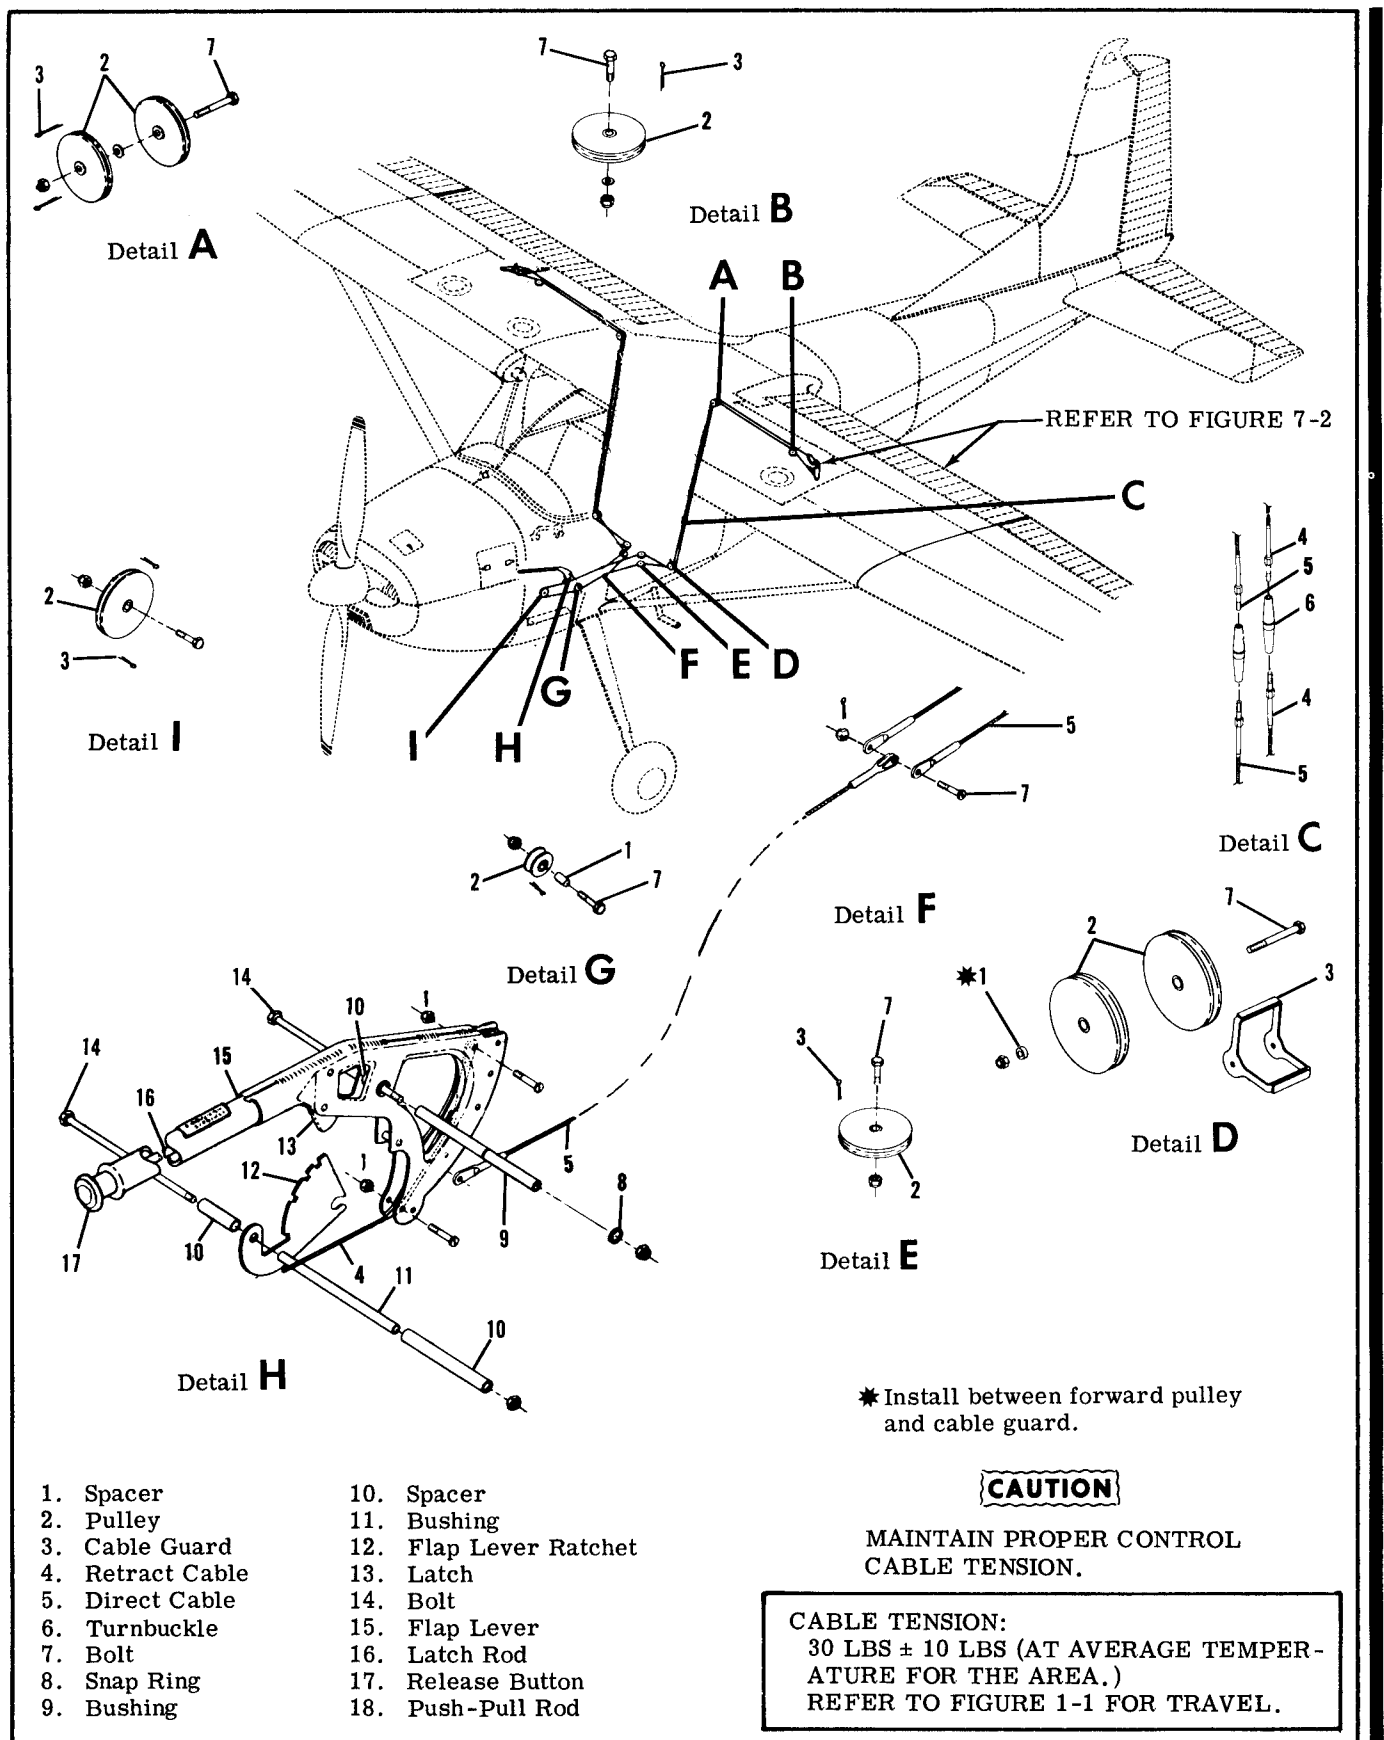

Figure 7-1. Wing Flap Control System
7-1. WING FLAP CONTROL SYSTEM. (Refer to figure 7-1.)
#### 7-6. REMOVAL AND INSTALLATION. (Refer to figure 7-1.)
- a. Remove access plate from lower wing skin adjacent to bellcrank (11).
- d. Remove safety wire and relieve cable tension at turnbuckles (index 6, figure 7-1.)
- e. Disconnect cables (14 and 18) at bellcrank (11).
- f. Disconnect push-pull rod (13) at bellcrank (11).
- g. Remove pivot bolt (20) and carefully work bellcrank out through access opening, using care not to drop bushing (19).
#### 7-15. REMOVAL AND INSTALLATION. (Refer to figure 7-1.)
#### 7-16. RIGGING. (Refer to figure 7-1.)